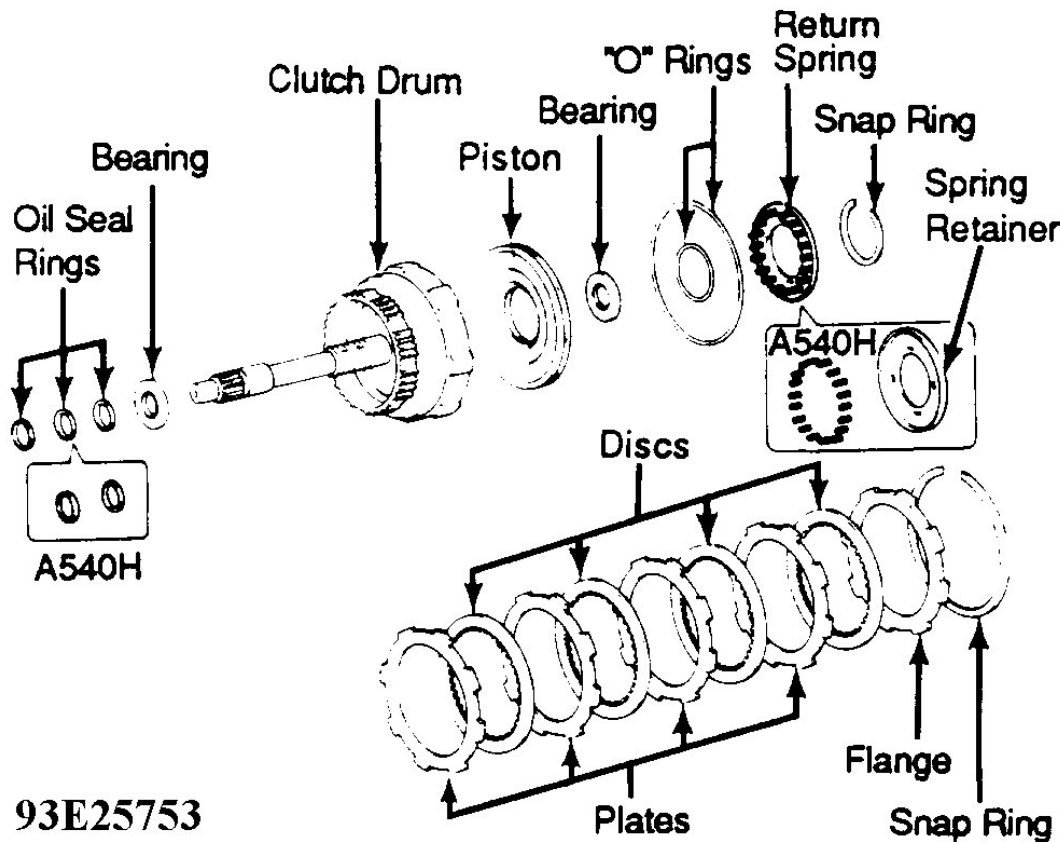

Fig. 22: Exploded View Of Forward Clutch (A-540H Shown; A-241H Similar)
2. Remove snap ring from clutch drum. See **Fig. 22**. Remove flange, discs and plates. Place Compressor Block (09351-32070) on spring retainer.
1. Coat NEW "O" rings with ATF. Install "O" rings on piston. See **Fig. 22** . Press piston into drum with cup side up. Ensure "O" ring is not damaged.